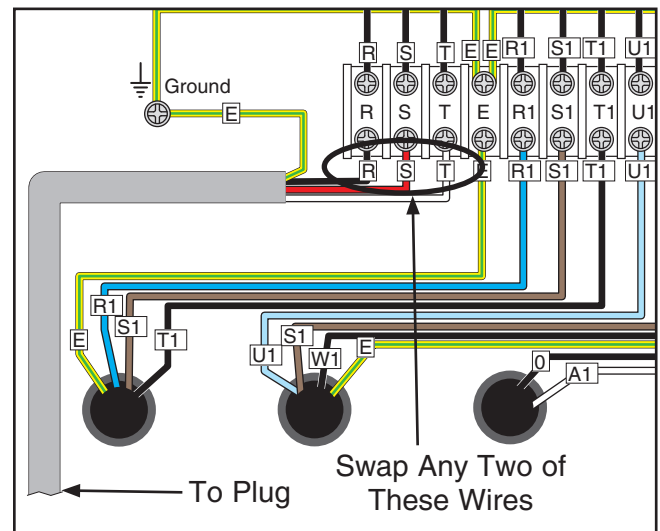

Figure 10. Swapping power connections to correct out-of-phase wiring.
2. Open the electrical box and swap any two hot wires R, S, T, as illustrated in **Figure 10**.